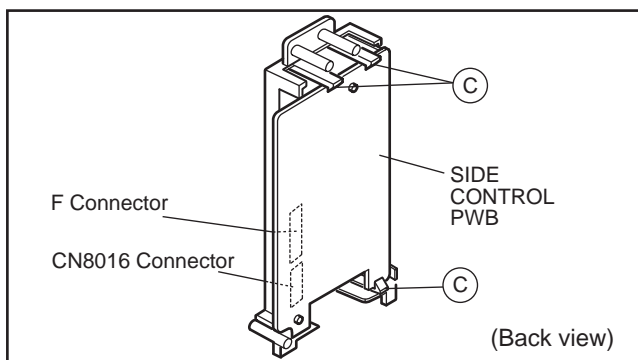

Fig.2
- (2) While slightly raise the SIDE CONTROL JACK ASSEMBLY, remove the 2 claws under the SIDE CONTROL JACK ASSEMBLY.
- (3) Disconnect the connector F and CN8016 as shown in Fig. 2.
- (1) Remove the 3 claws [C] from back side of the SIDE CONTROL JACK ASSEMBLY as shown in Fig. 2.
- (2) Pull out the SIDE CONTROL PWB.